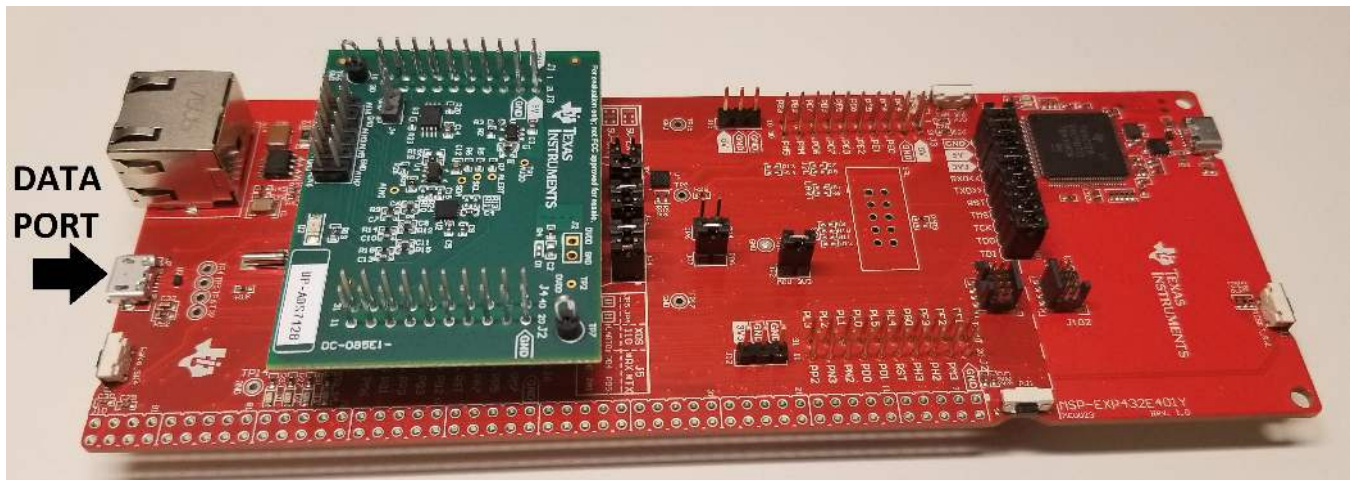

Figure 9. BP-ADS7128 Stacked on the MSP432E401Y LaunchPad™
2. Connect the MSP-EXP432E401Y micro USB data port to an available USB port on the PC. Figure 9 shows the assembled BP-ADS7128 and MSP-EXP432E401Y configuration.